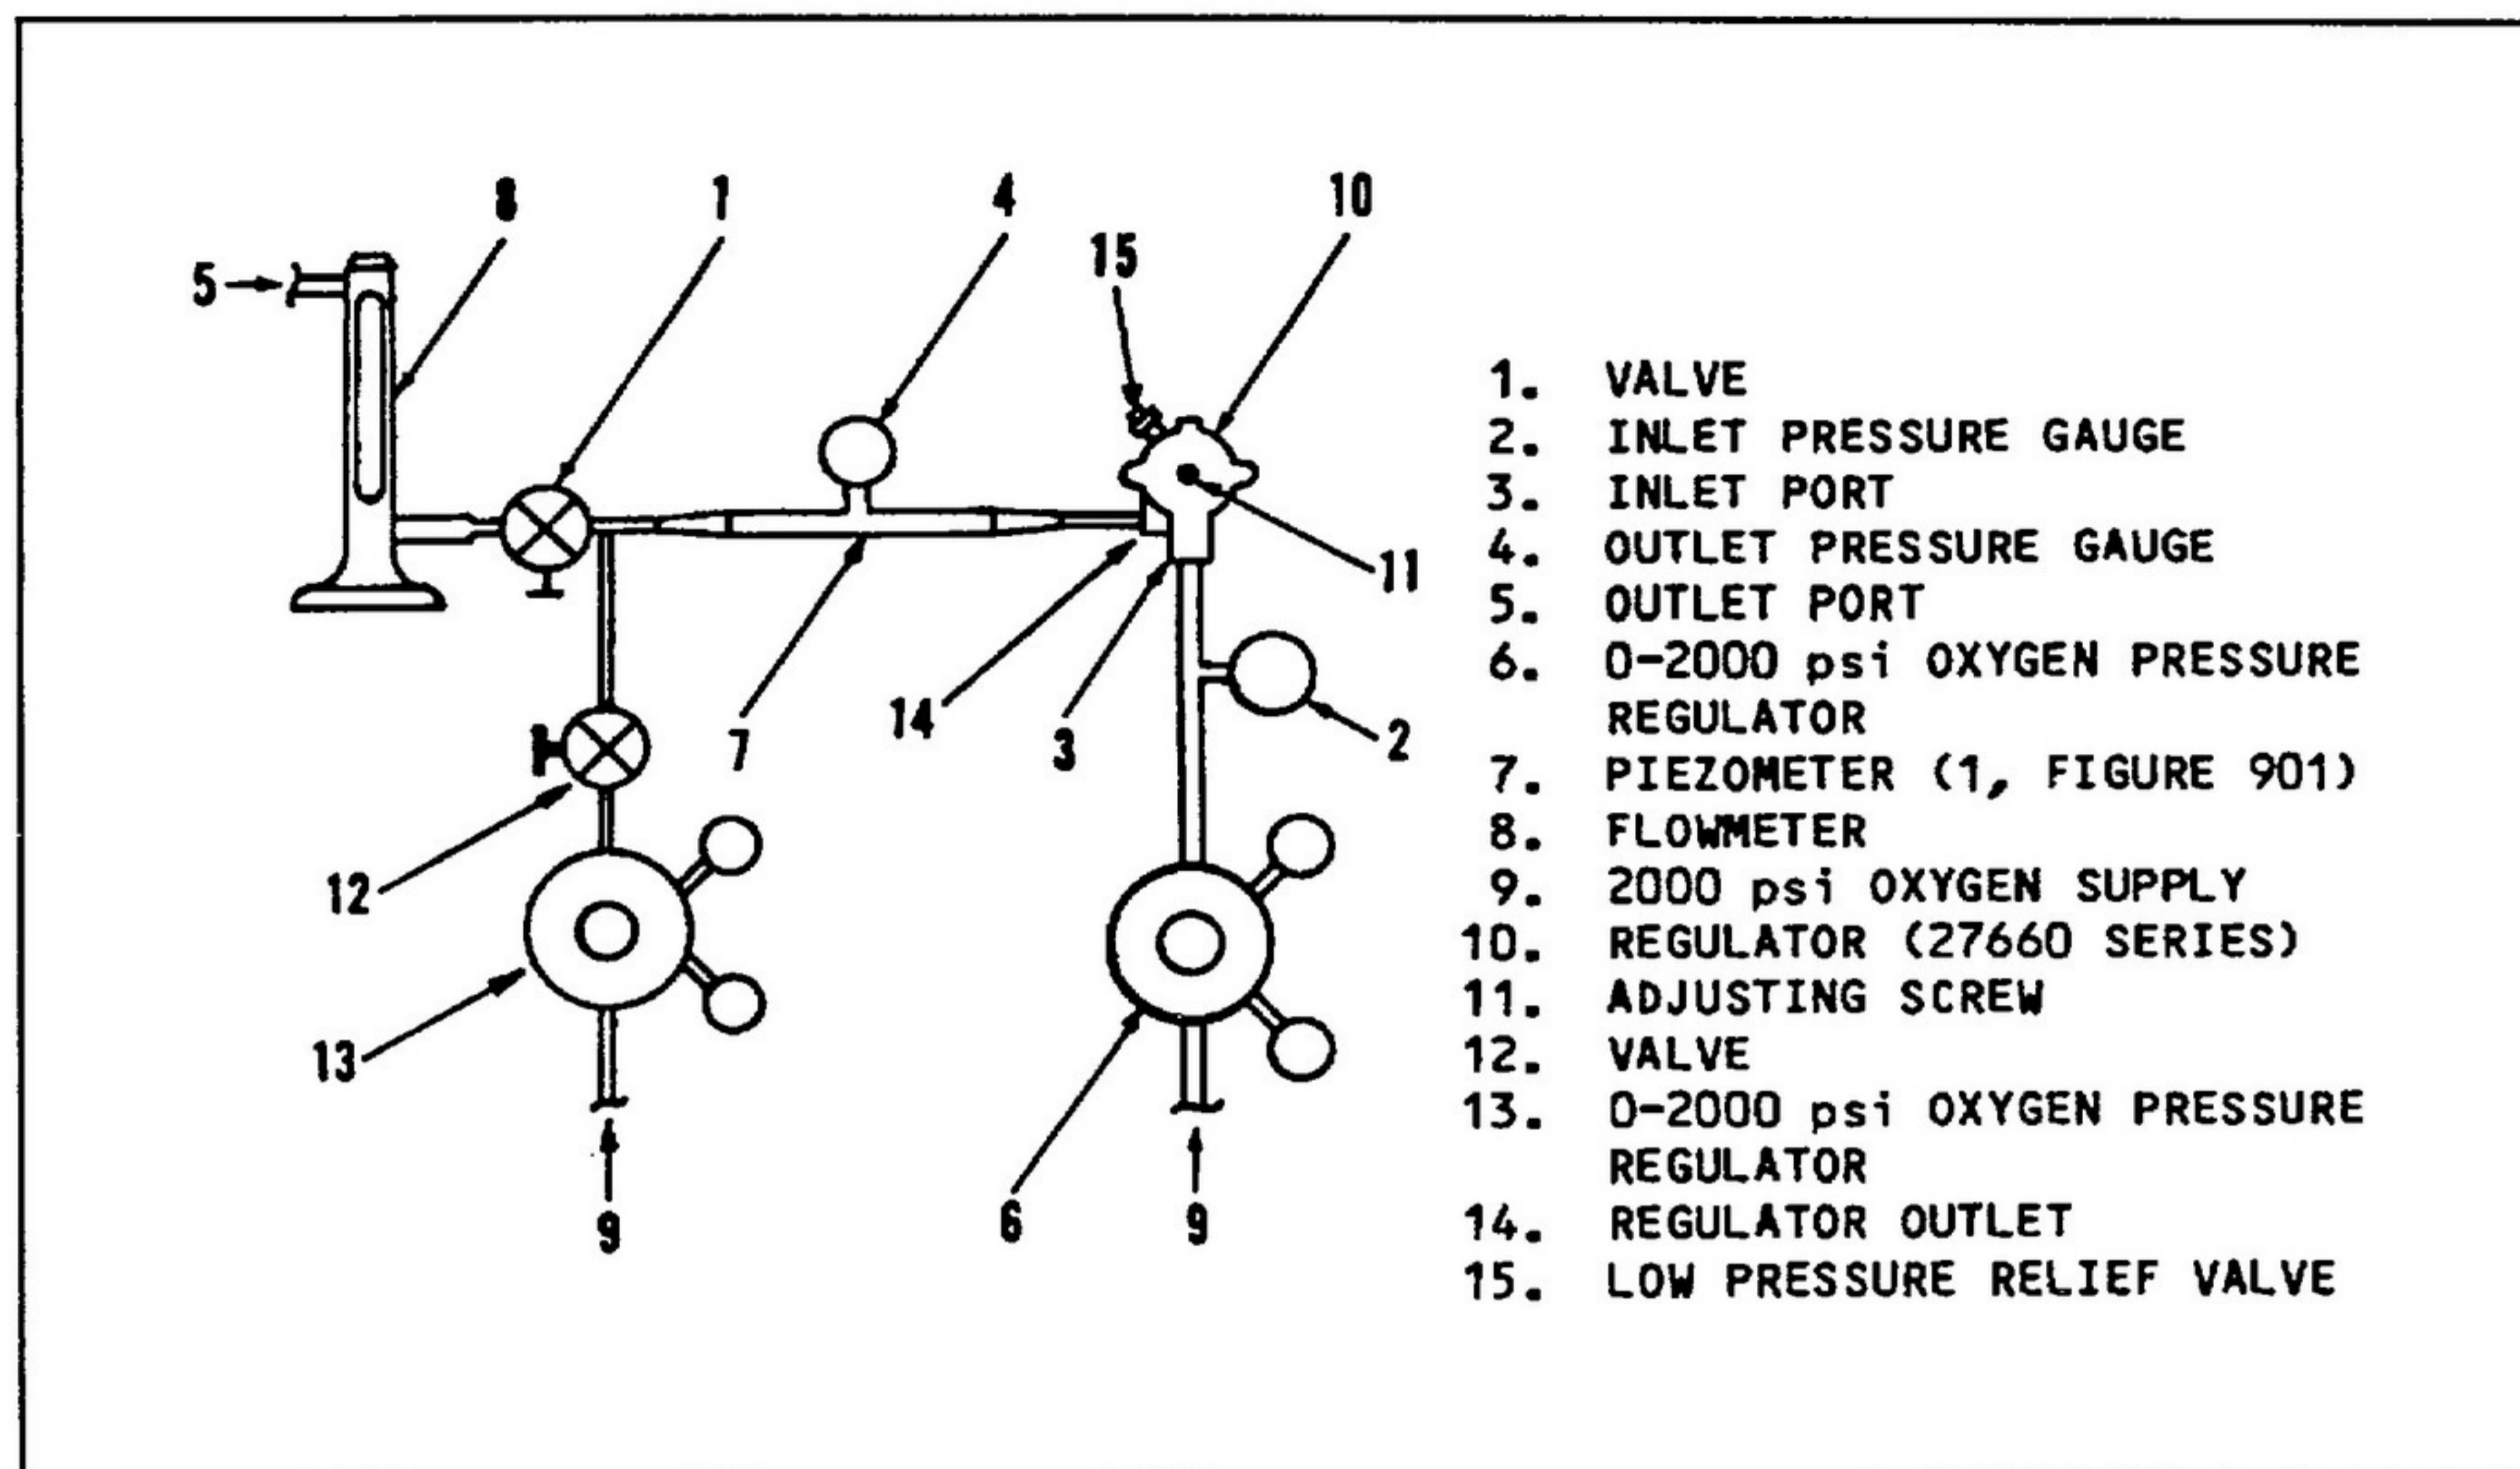

Figure 101 Test Set-up
The test procedures described in this section require the 27660 Series Oxygen Regulator Assembly to be connected to test equipment test setup that is illustrated in Figure 101.
NOTE: Be certain low pressure relief valve (15, Figure 101) is installed in the regulator assembly.
- (1) Plug inlet port (3, Figure 101) of regulator being tested; close valve (1).
- (2) With valve (12) closed, adjust oxygen regulator (13) to apply 100 psig (0.69 MPa), 120 psig (0.83 MPa) for 27660 -17 and -23 regulators. Slowly open valve (12) to apply set pressure to regulator outlet port (14). Relief valve shall hold this pressure.
- (3) Using oxygen regulator (13) increase applied pressure to 110 psig (0.76 MPa), 130 psig (0.90 MPa) for 27660-17 and -23 regulators. Relief valve shall open and flow between 100-110 psig, (0.69 - 0.76 MPa), between 120-130 psig (0.83 - 0.90 MPa) for 27660-17 and -23.
- (4) Using oxygen regulator (13) reduce pressure to 90 psig (0.63 MPa), 110 psig (0.70 MPa) for 27660-17 and -23. Relief valve shall have reseated and hold pressure at 90 psig (0.63 MPa) minimum, 110 psig (0.76 MPa) minimum for 27660-17 and -23.
- (5) Close valve (12) and relieve test pressure using valve (1).
- (1) With valve (1, Figure 101) closed, apply inlet pressures listed in Table 104 to the regulator under test. Adjust for proper outlet pressure indication (see Table 104) on pressure gauge (4) using adjusting screw (11).
- (2) Open valve (1) to allow a flow of 2 SLPM (10 SLPM on -13 units) as indicated on flowmeter (8). The regulated pressure indication on gauge (4) shall not drop more than 8 psig (0.055 MPa) for all units except the -11 and -13. For -11 units, the regulated pressure shall be between 48-55 psig (0.32 - 0.33 MPa); for -13 units the regulated pressure shall be 50 psig (0.345 MPa).
- (3) Apply the inlet pressures listed in Table 105 while adjusting valve (1) to obtain the specified flows as indicated on flowmeter (8). The allowable regulated pressure indicated on gauge (4) shall be within the ranges listed in Table 105 for the particular regulator assembly being tested.
- (1) With valve (1, Figure 101) in the "off" position, apply the lower of the pressures listed in Table 106 to inlet port (3) of the regulator under test.
- (2) Slightly open and slowly close valve (1) to allow the outlet pressure indication on gauge (4) to stabilize.
- (3) There shall be no leakage; as indicated by a pressure increase on gauge (4), during a ten-minute period (two minutes for -13 units).
- (4) Apply the higher of the inlet pressures listed in Table 106 and repeat steps (2) and (3) above.